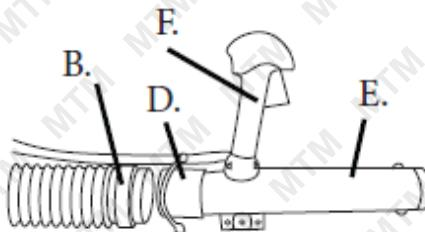
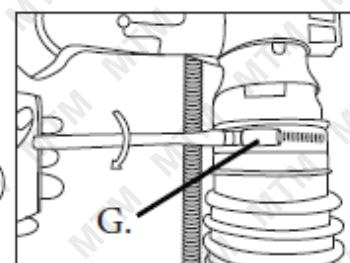

Fig.3
Fig.4
2. Put the hose clamp (G) on the flex tube and the operating tube together.
3. Turn the rotary ring mark (D) so it aligns with the throttle handle (F).
4. Insert the operating tube (E) into the tube (B) (Fig. 3) and then tighten securely with a hose clamp (G) (Fig. 4).